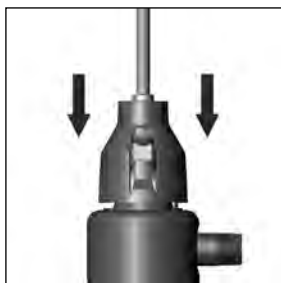

Figure 11
5. Push the safety cap on while ensuring that the grounding wires are under the cap and not in the way of the tabs (Figure 11).